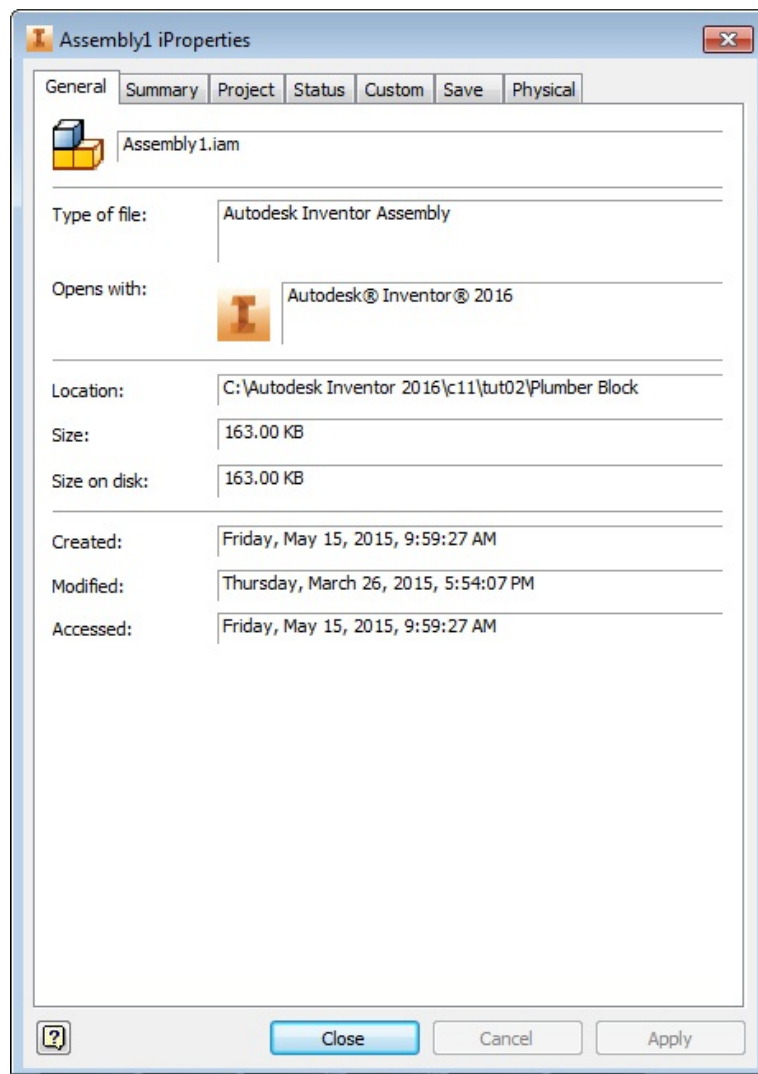

Figure 17-10 The *iProperties* dialog box
ALTERNATIVELY, RIGHT-CLICK ON THE NAME OF THE COMPONENT IN THE **BROWSER BAR** OF THE CURRENT ASSEMBLY AND CHOOSE **IPROPERTIES** FROM THE SHORTCUT MENU DISPLAYED; THE **IPROPERTIES** DIALOG BOX OF THE CORRESPONDING COMPONENT WILL BE DISPLAYED, AS SHOWN IN FIGURE 17-10. THE TABS IN THIS DIALOG BOX ARE DISCUSSED NEXT.
*If the component is not saved at any location after it is created then the **iProperties** dialog box displayed will be different from the one shown in Figure 17-10.*